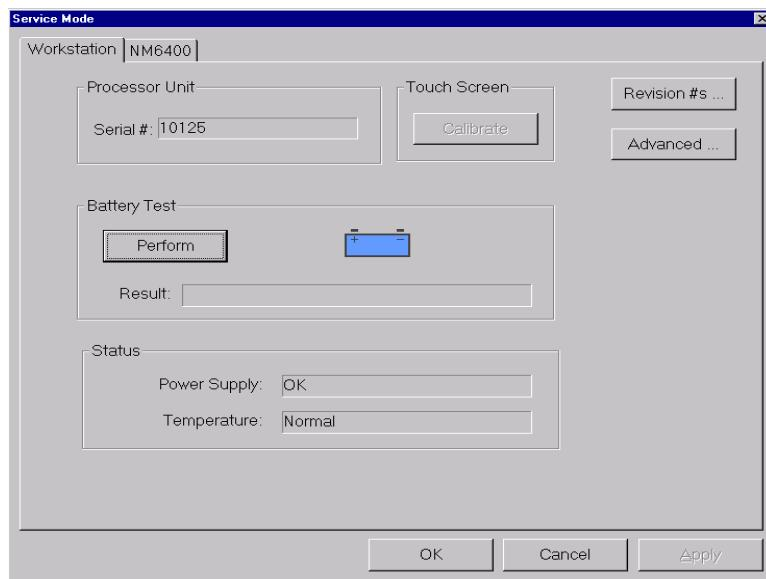

FIGURE 2. Serial Number Location
- 1.3 Access the main Service Mode screen. Select the Workstation tab. Record the WPU (Processor Unit) serial number listed on the NM6K Service Mode page for future reference. Refer to FIGURE 2.